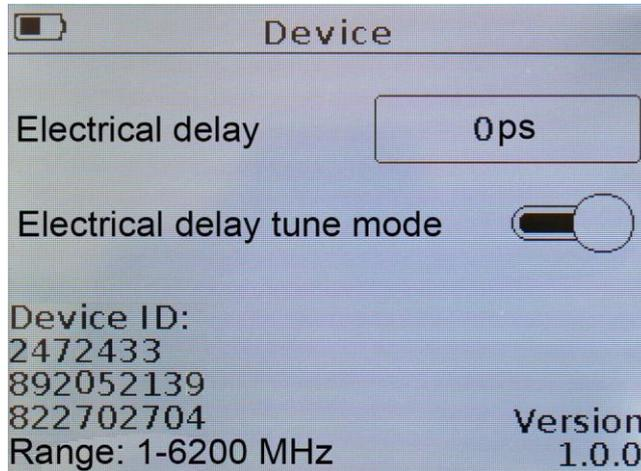

Figure 9.24 – Enabling Electrical delay tune mode
9.9.3. For precise adjustment of the compensation value probing signal electrical delay time (T) to move from a display mode of a Smith graphs, or phase diagrams in polar profile information about the device **Device** in the main menu of the device (Figure 9.24).